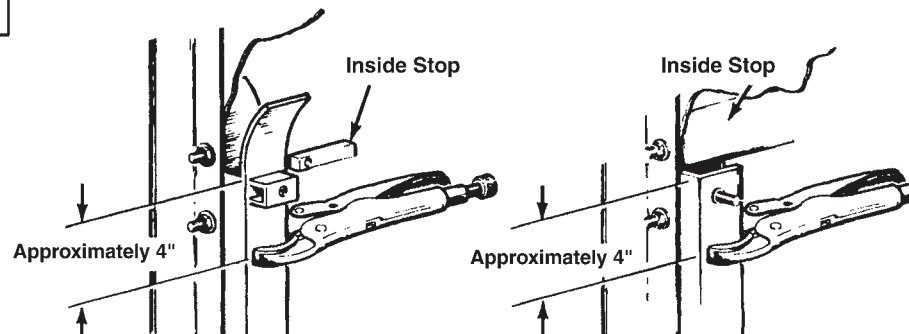

Figure 28
- Install Inside Stop on LH and RH guides as shown in Figures 28 and 29.
- If the door has flared guides: Slide stop into inside channel holder and secure with 3/8-16 x 1/2" round head screw and washer. Attach locking pliers approximately 4" below the top of channel holder on both LH and RH guides as shown in Figure 28.